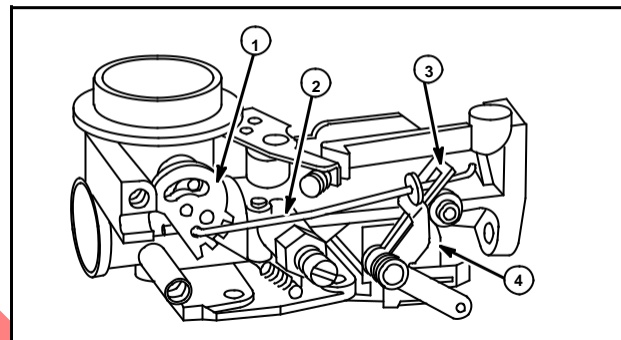

Fig. 73
1. To remove choke link (2), remove speed adjustment lever (3) and stop switch insulator plate (4).
2. Work link out through hole in choke shaft (1), Fig. 73.